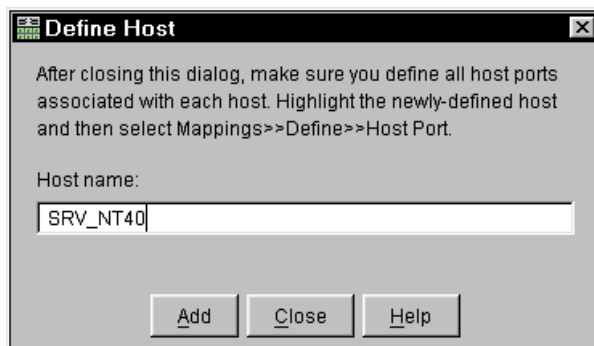

Figure 4-39 Define Host
- On the Define Host dialog (Figure 4-39), enter the name of the host you want to define in the selected group. If you finished entering all hosts for this group, click **Close**. Then choose the next host group and define the hosts in that group.